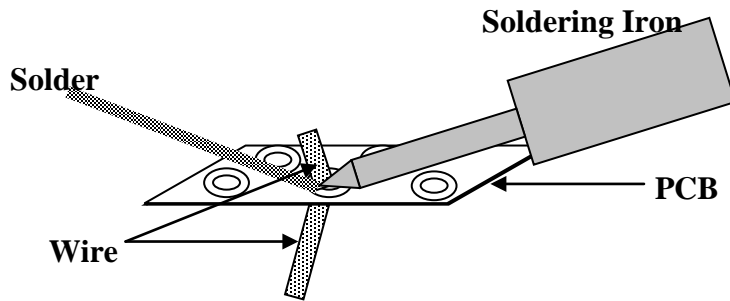

Fig. 2. Correct placement of components for soldering.
4.1.8. Solder several wires to the practice PCB (Fig. 2). It should take a few wires to get a good technique. (Note: a good solder joint is “shiny.”)